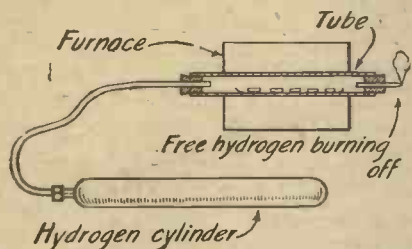

Fig. 2.—Hydrogen Electrode-heating Furnace.
definite period. There are two classes of furnace (1) vacuum and (2) hydrogen. These are depicted in Fig. 1 and Fig. 2 respectively. In both cases the electrodes are contained in large tubes composed of fused silica or other suitable material. In the case of the vacuum furnace, one end of the tube is closed and the other end is connected to a vacuum system by means of a rubber bung and connecting tube. In the hydrogen furnace, the gas is passed in through one end and burnt off in a very small jet at the free end. After this treatment has been carried out for a definite period, the heat is cut off and the electrodes are allowed to cool down in the vacuum or in the hydrogen. When the electrodes are completely cooled down they are taken out of the tube, mounted on to the pinch; sealed into the bulb and the valve is now ready for pumping.